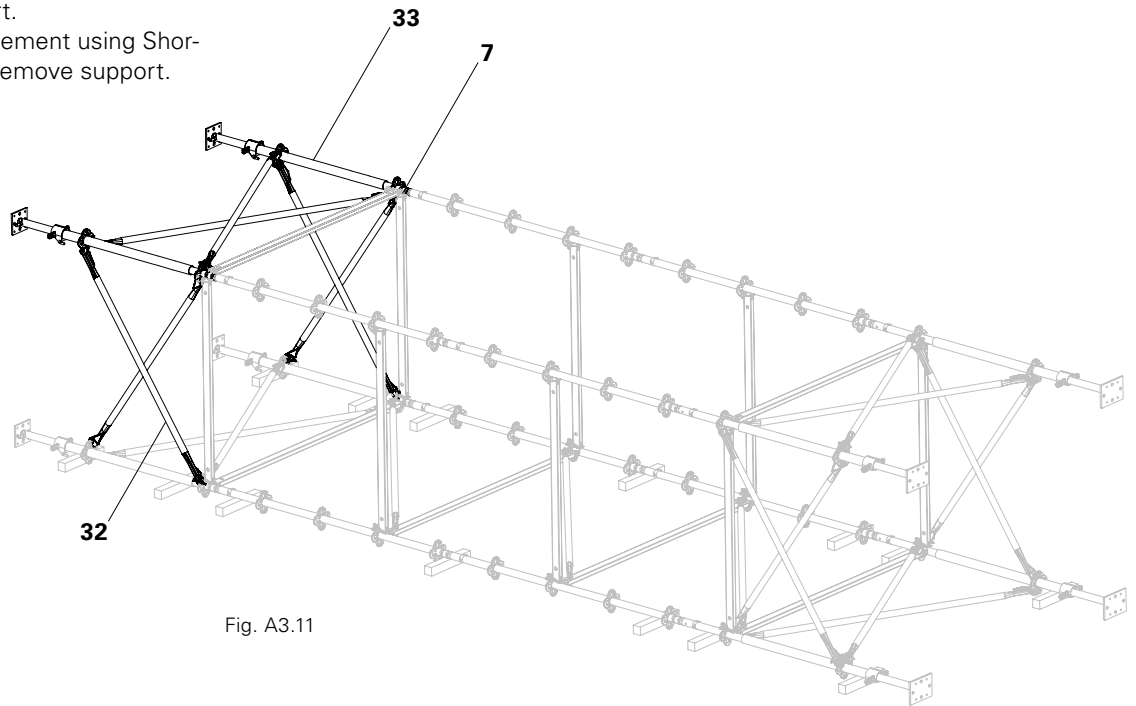

Fig. A3.11
9. Attach prepared Base Element (33) for the second shear frame arrangement and secure with Locking Pins (7). Provide the Base Element with temporary support.
10. Brace the Base Element using Shoring Braces (32). Remove support.
- (Fig. A3.11)